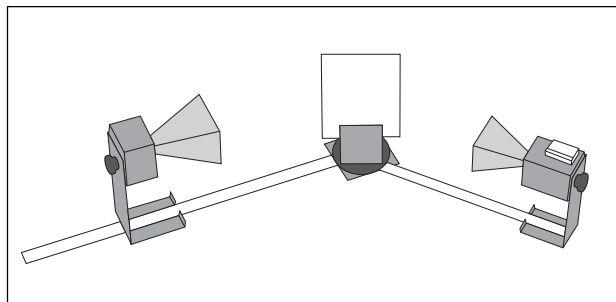
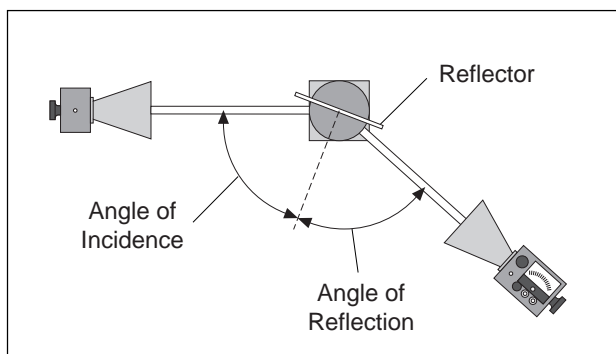

Figure 2.1 Equipment Setup
Figure 2.2 Angles of Incidence and Reflection
- ① Arrange the equipment as shown in figure 2.1 with the Transmitter attached to the fixed arm of the Goniometer. Be sure to adjust the Transmitter and Receiver to the same polarity; the horns should have the same orientation as shown.
- ② Plug in the Transmitter and turn the Receiver INTENSITY selection switch to 30X.
- ③ The angle between the incident wave from the Transmitter and a line normal to the plane of the Reflector is called the **Angle of Incidence** (see Figure 2.2). Adjust the Rotating Component Holder so that the Angle of Incidence equals 45-degrees.
- ④ Without moving the Transmitter or the Reflector, rotate the movable arm of the Goniometer until the meter reading is a maximum. The angle between the axis of the Receiver horn and a line normal to the plane of the Reflector is called the **Angle of Reflection**.
- ⑤ Measure and record the angle of reflection for each of the angles of incidence shown in Table 2.1.